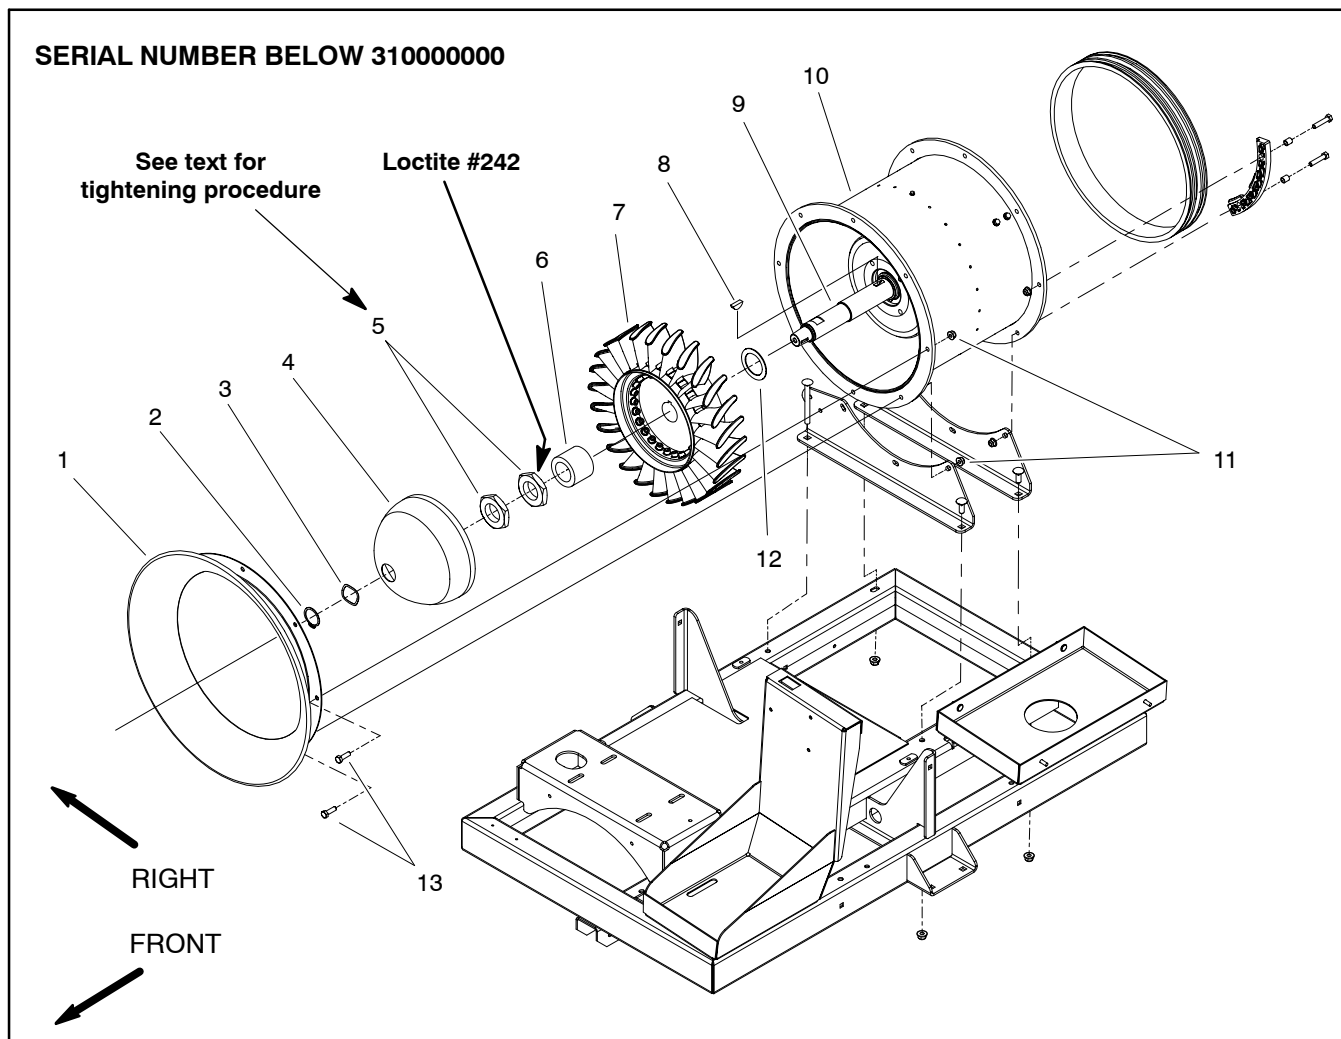
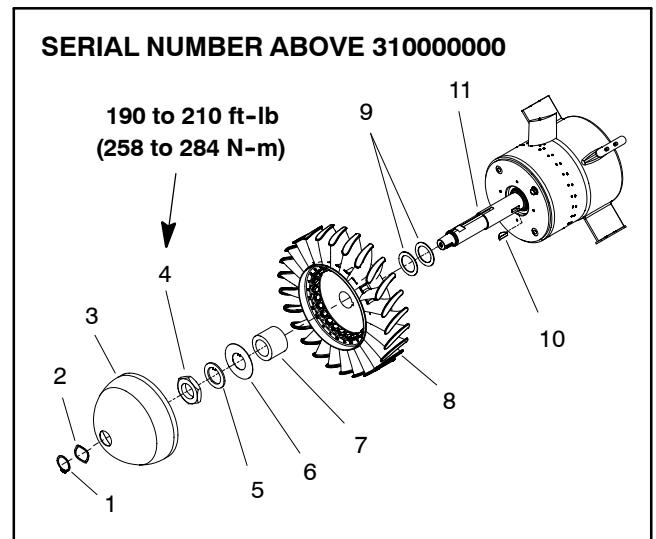

Figure 4
Figure 5
**NOTE:** ProForce blowers with a serial number below 310000000 use two (2) nuts to secure rotor assembly to rotor shaft (Fig. 4). Blowers with serial numbers above 310000000 use one (1) nut (Fig. 5).
### Removal (Fig. 4)
5. Remove retaining ring (item 2), wave washer(s) (item 3) and front cap (item 4) from shaft.
A. On machines with serial numbers below 310000000 (Fig. 4), remove outer nut from rotor shaft by rotating nut in a clockwise direction. Then, remove inner nut by rotating nut clockwise. Use off-set wrench (see Special Tools) to loosen nuts from rotor shaft.
B. On machines with serial numbers above 310000000 (Fig. 5), straighten inner tab washer to allow removal of nut. Remove nut from rotor shaft by rotating nut in a clockwise direction. Remove two (2) tab washers from rotor shaft.
**NOTE:** Washers (item 12) are used to prevent rotor from contacting rotor housing assembly. Typically, two (2) washers are required.
7. Slide spacer (item 6), rotor assembly and washer(s) (item 12) from shaft. Locate and retrieve woodruff key.
**Installation (Fig. 4)**
1. Position woodruff key in slot in rotor shaft. Slide washer(s) (item 12), rotor assembly and then spacer (item 6) onto shaft. Make sure that rotor does not contact rotor housing. If necessary, add additional washer(s) to allow proper clearance.
2. On machines with serial numbers below 310000000 (Fig. 4), secure rotor assembly to rotor shaft as follows:
3. On machines with serial numbers above 310000000 (Fig. 5), secure rotor assembly to rotor shaft as follows:
4. Install front cap (item 4), wave washer(s) (item 3) and retaining ring (item 2) onto shaft. Up to three (3) wave washers might be necessary to secure front cap.